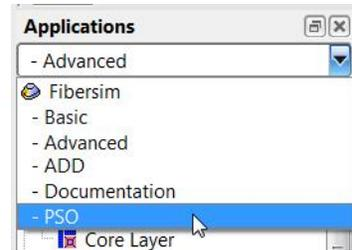

Figure 12–7
1. Select **PSO** from the *Application Browser* as shown in Figure 12–7.